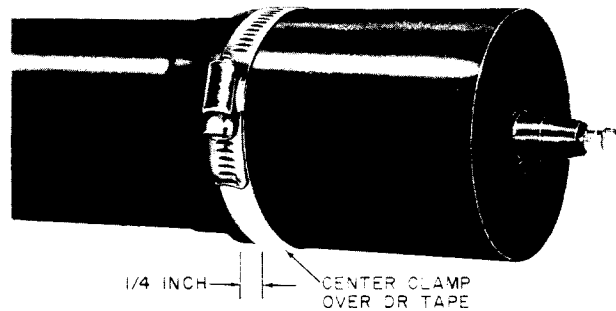

Fig. 4—C Cable Cap Installed
- (3) Locate the clamp 1/4 inch from the open end of the cap as shown in Fig. 4.